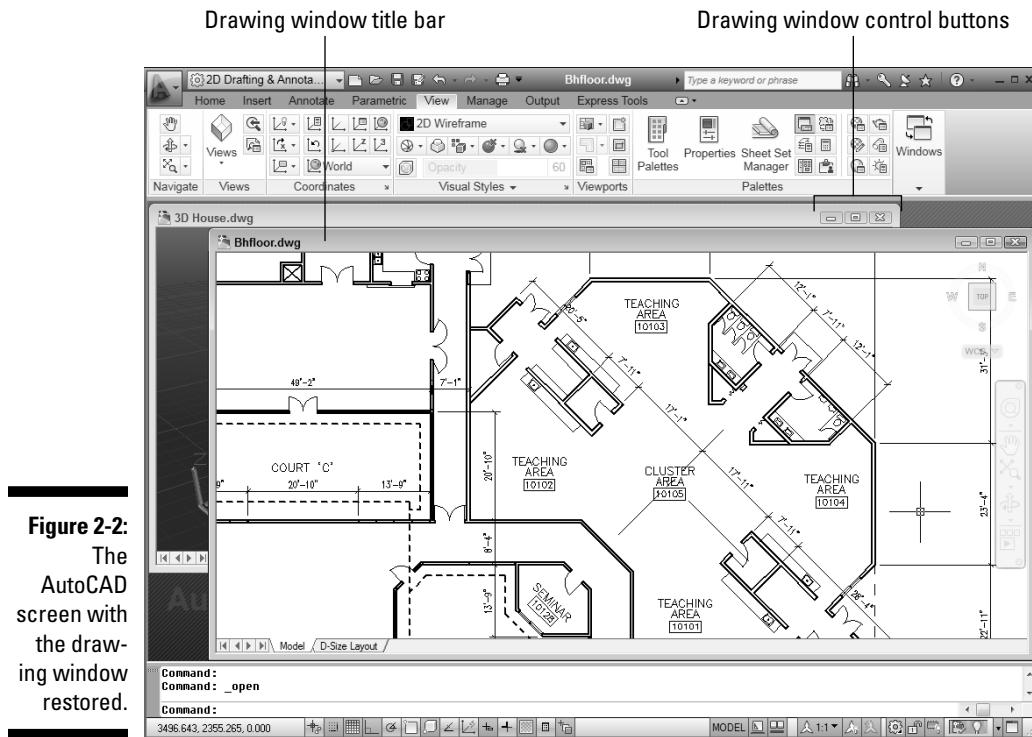

Figure 2-2:
- ✓ Each non-maximized drawing window within the AutoCAD program window has its own title bar, as shown in Figure 2-2. You can use the control buttons on a drawing window's title bar to minimize, maximize/restore, or close that drawing instead of the entire AutoCAD program.